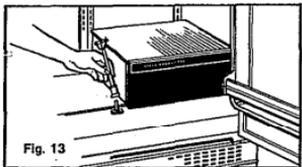

Fig. 13
3. Remove crisper cover shelf support post (Fig. 13).